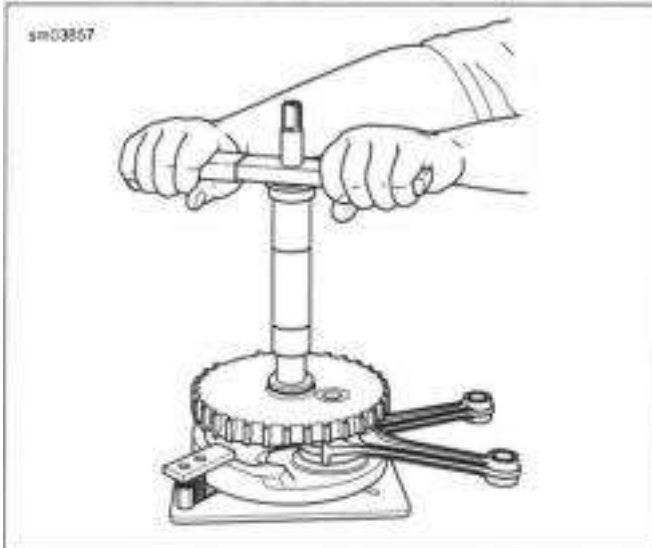

Figure 4-76. Press Inner Race onto Sprocket Shaft: Operation
4. See Figure 4-76. Seat the bearing race using SPROCKET SHAFT BEARING INSTALLER (PART NUMBER: HD-97225-55C). Follow instructions supplied with tool.